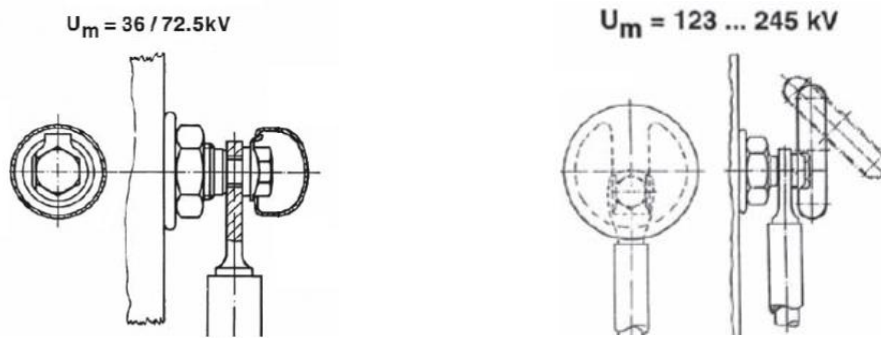

Figure 16a. 3 phase current $\leq 600A$ & single phase OLTC
- (8) Remove the M10 bolts, shields and other parts of the connecting wires on the diverter switch oil compartment, and fasten the tap selector wires to the corresponding outlet contacts of the diverter switch, and cover the shield. The tightening torque is 50 Nm (Fig. 16a,16b).